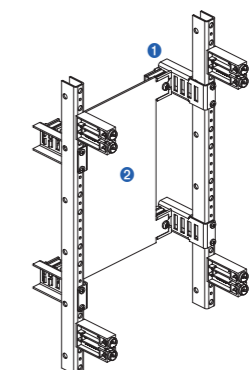

Fig. 8: Mounting plate with a set of drop-down shackles
**Mounting plate with drop-down shackle (Fig. 8)**